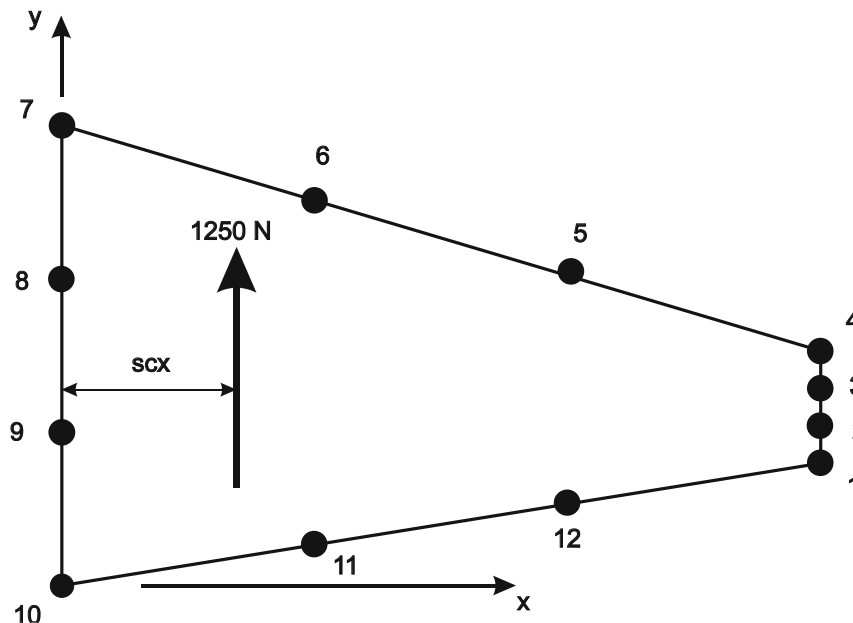

Figure 5: Closed single cell beam
5. The closed single cell beam of Figure 5 has been idealised to have 12 booms. If the beam is loaded with a vertical shear force of magnitude 1250 N through the shear centre, determine the shear flow distribution and the location of the shear centre. The coordinates of the 12 booms and their areas are given in Table Question 5.